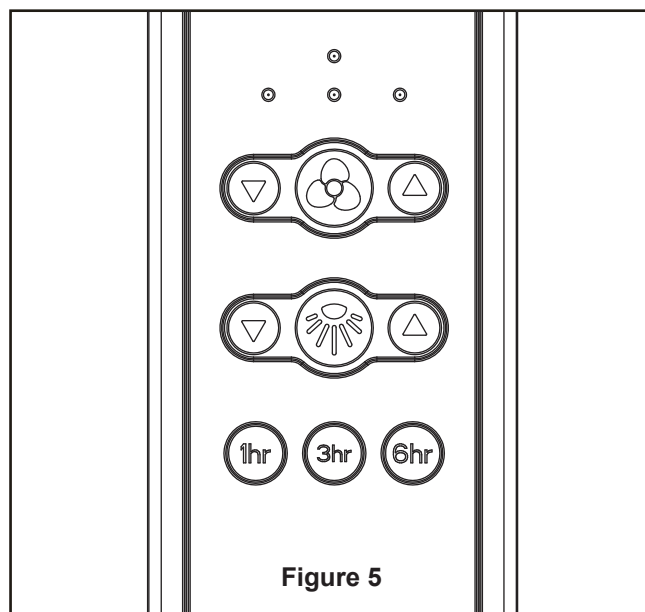

Figure 5
- ☐ 3. Using the two #8-32 screws and washers securely attach the ceiling plate assembly to ceiling outlet box as shown. (Figure 5)
- ☐ **5.** Remove one of the three screws in the light plate assembly. Retain the screw for later and slightly loosen the remaining two screws. (Figure 5)
### 5. Remote functions: (Figure 5)